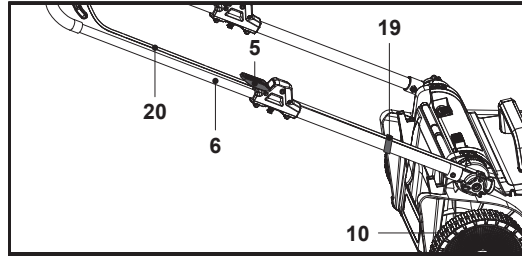

Fig. 4
- Attach the control cord (20) into the cord clips (19) which may be pre-installed on the lower handle bar (6) (Fig. 4).